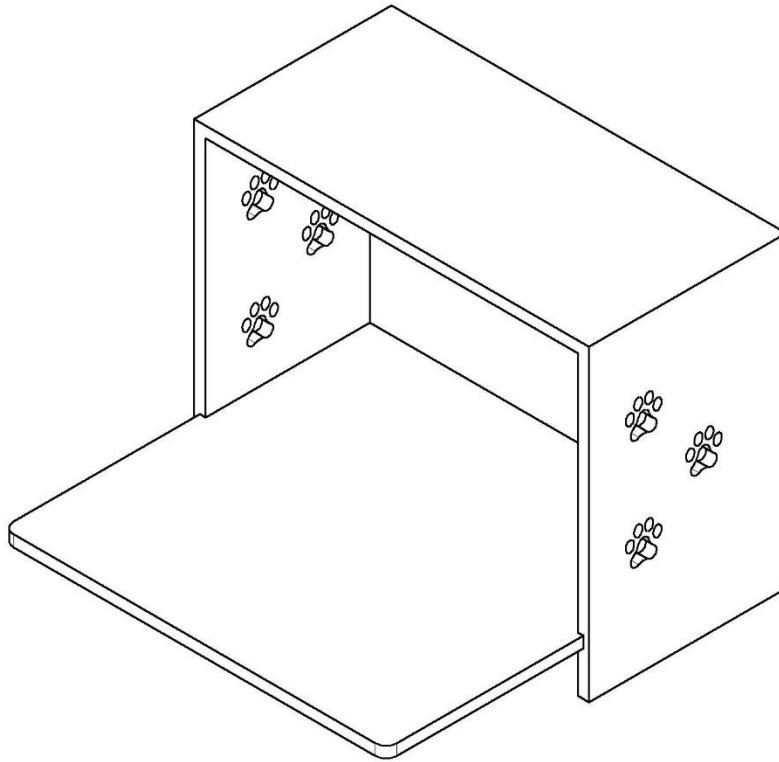

Figure A.6
6. Your box should now be completed and resemble the one shown in Figure A.6. Repeat steps 1-5 as needed to complete all boxes purchased.